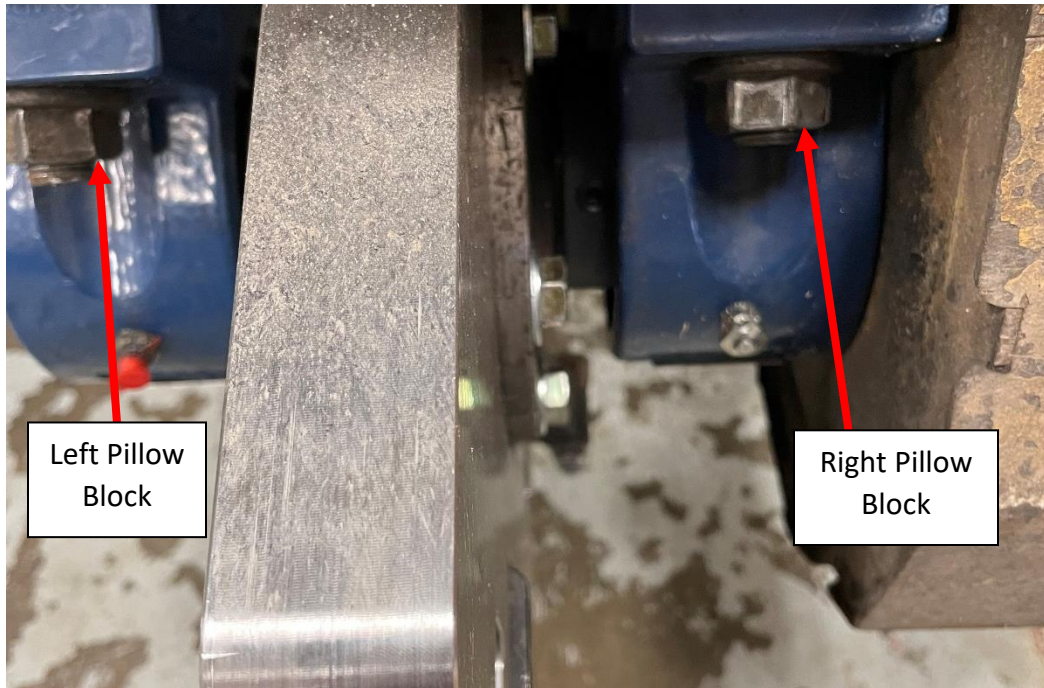

Figure 1.5
5. Loosen and remove the left pillow block bearing bolts. (Figure 1.5)
6. Remove the right pillow block bearing bolts (Figure 1.5).